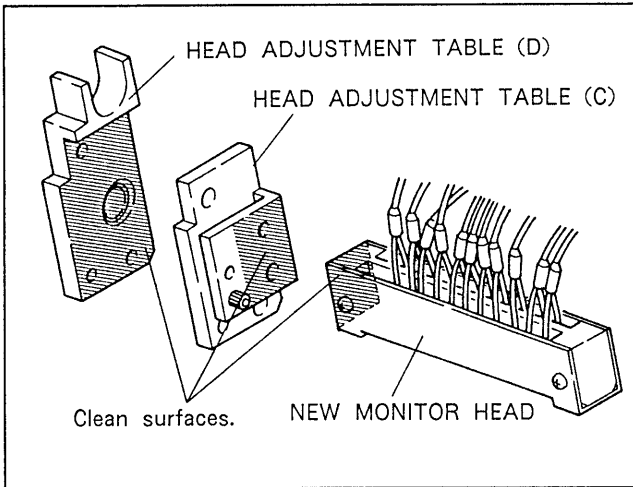

Fig. 6-17-3. Cleaning the Mounting Surface
6. Clean the shaded area of each mounting surface shown in Fig. 6-17-3 by the cleaning cloth (or gauze) soaked with alcohol.